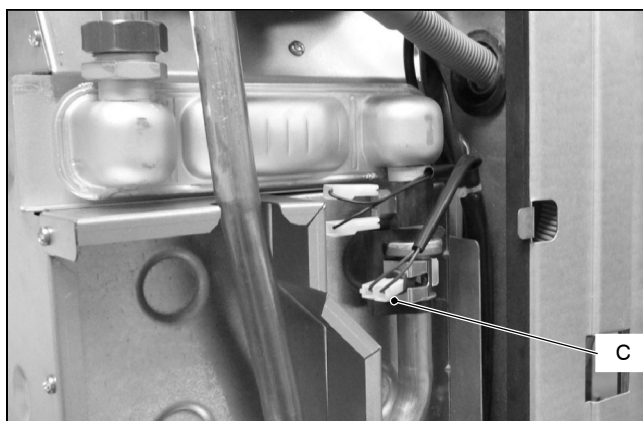

Fig. 7
- 5 Disconnect the electrical connectors C of the C.h. temperature probe NTC in Fig. 7
- 7 Connect the the elctrical connectors C of the C.h. temperature probe NTC in Fig. 7